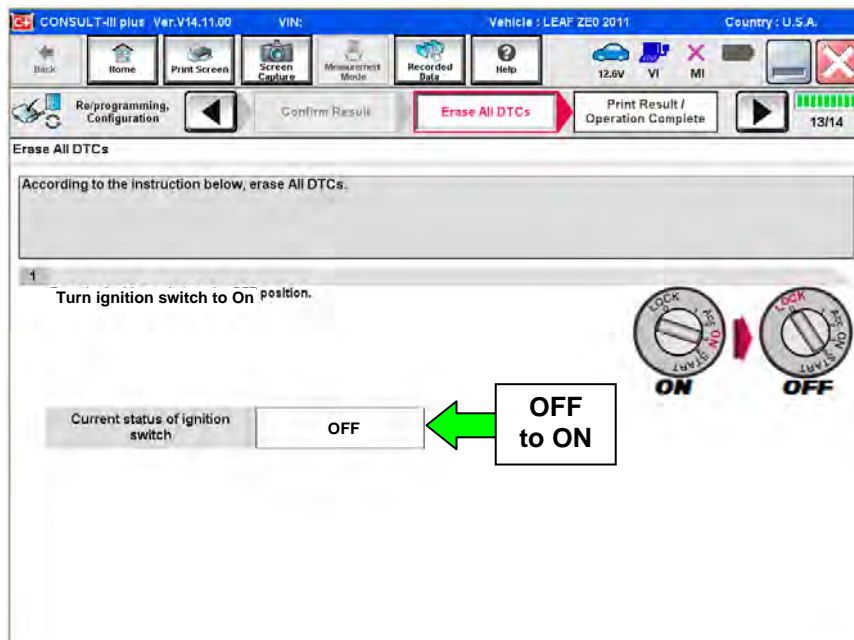

Figure 36
- The screen in Figure 36 will read **ON** after pressing the power switch twice.